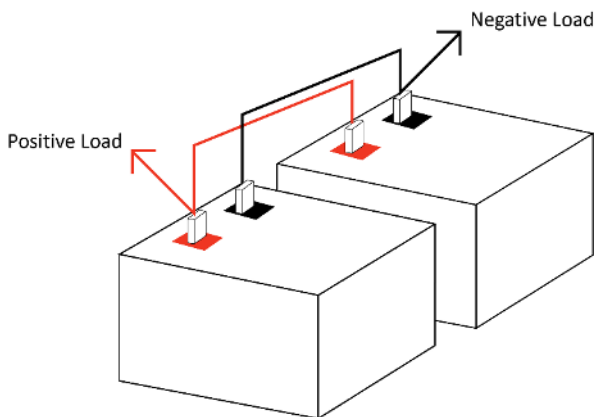
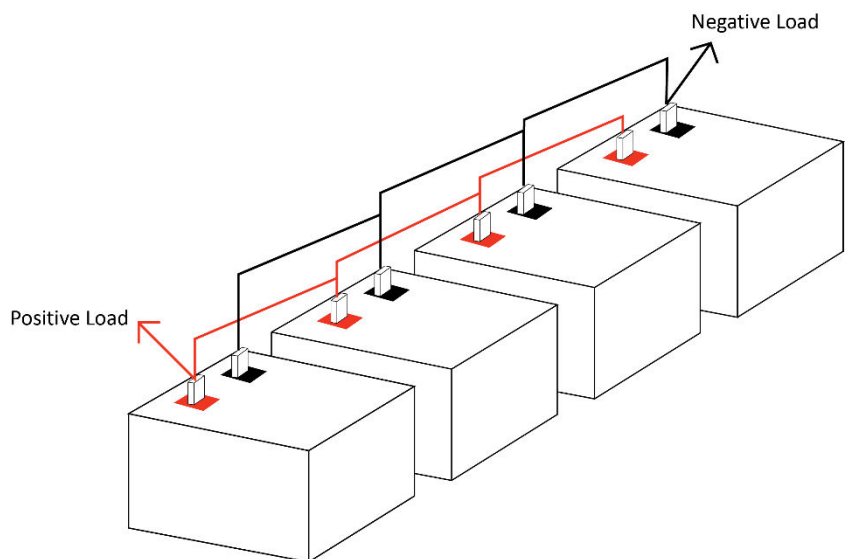

Figure 3.1: Two 8D Batteries connected in Parallel to create a 12V 540Ah Battery Bank
Figure 3.2: Four 8D Batteries connected in Parallel to create a 12V 1,080Ah Battery Bank
7. Repeat steps 3-6 for additional batteries in the system. An example of a finished connection can be found below in Fig. 3.1 and Fig. 3.2.